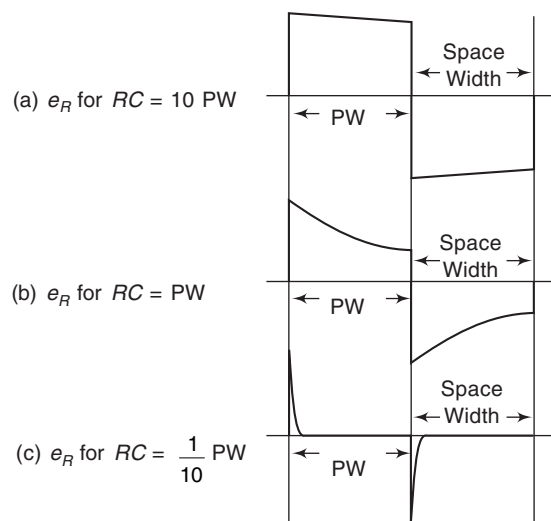

Fig. 8.17 Output Waveforms for Various RC and PW Relationships. The Circuit behaves as a Differentiator only when RC is Less than or equal to 10 PW.
1. When $RC \geq 10 PW$, the capacitor charges very little during the pulse time, and the charging current falls only a small amount from its initial level. This is shown in Fig. 8.17(a). e_R remains almost constant, the capacitor is discharged and i_c is a negative quantity. The resistor voltage is now negative and remains nearly constant during the discharge time.
2. When $RC = PW$, the capacitor is charged to approximately 60% of the input voltage during the pulse time. Consequently, the charging current falls by about 60% of its initial value, giving an output waveform with a pronounced tilt. This is shown in Fig. 8.17(b).
The resultant waveform of resistor voltage is a series of positive and negative spikes at the leading and lagging edges, respectively, of the pulse. This is shown in Fig. 8.17(c). At the *leading edge* of the input pulse, the input voltage is changing rapidly in a positive direction. At the *trailing edge* of the input pulse, the input voltage is changing rapidly in a negative direction. During both the pulse width and space width, the input voltage does not change at all. Thus, the positive and negative spikes indeed represent a differentiated square wave.